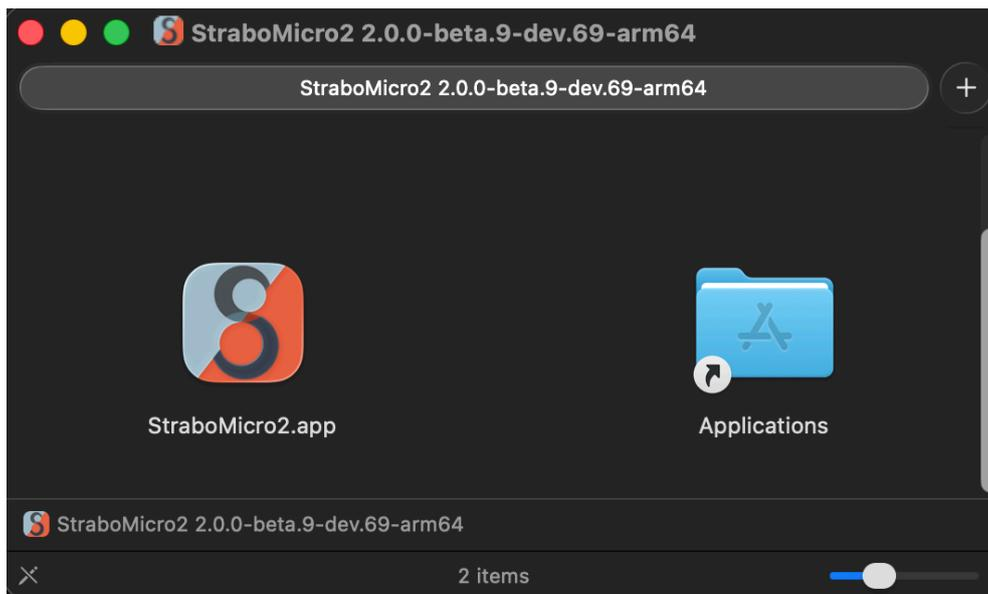

Figure 4. Drag StraboMicro2 to Applications folder on macOS.
- Drag the StraboMicro application into the `Applications` folder (Figure 4).